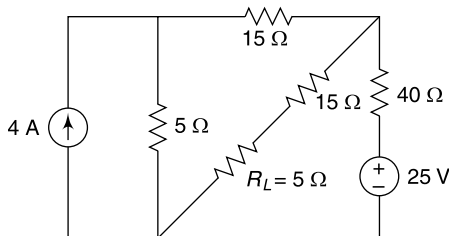

Fig. 4.138 Circuit of Ex. 4.107
4.107 Using the superposition theorem, find the current through R_L in the circuit shown in Fig. 4.138.